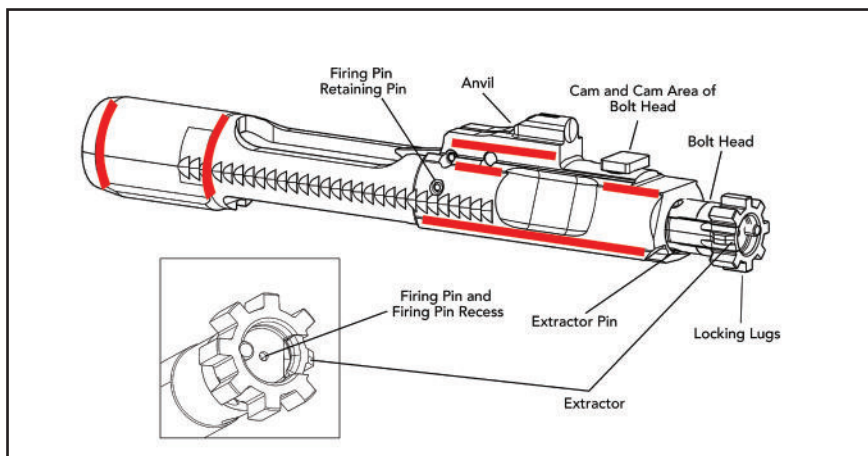

Fig. 83 – Lubrication of the MR556A1 Bolt Carrier Assembly
2. Apply a light coat of lubricant to the extractor pin, the firing pin, firing pin spring, firing pin recess in the bolt. Apply a medium coat of lubricant to the red areas (Fig 83).
3. Apply a medium coat of lubricant to the extractor (Fig. 83).